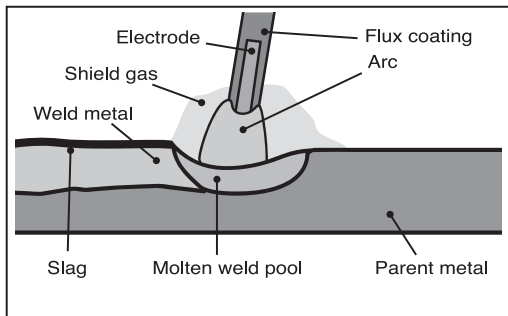

FIG. 9
8.4 ARC WELDING, FILLER ROD (ELECTRODE) SELECTION – FIG. 9